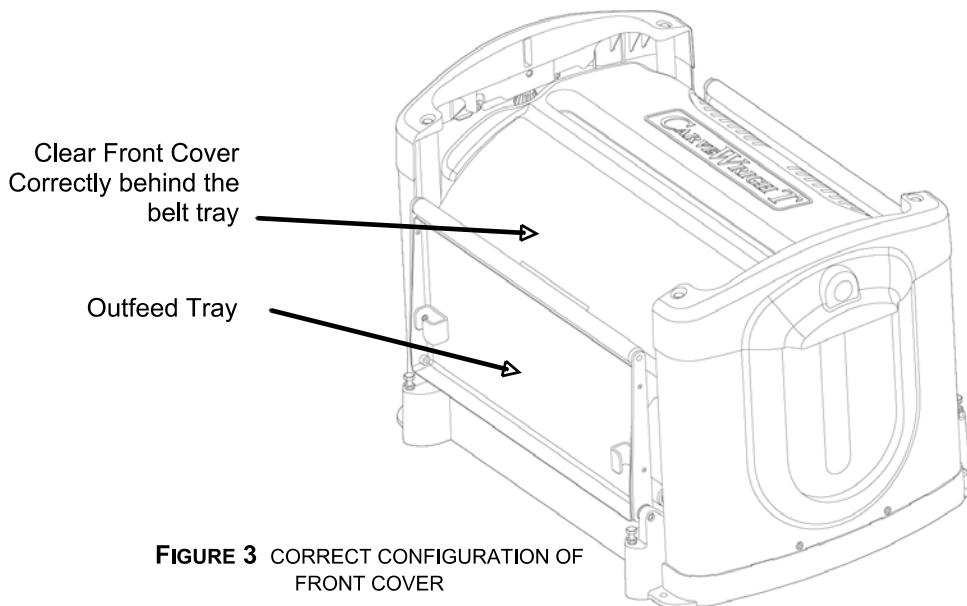
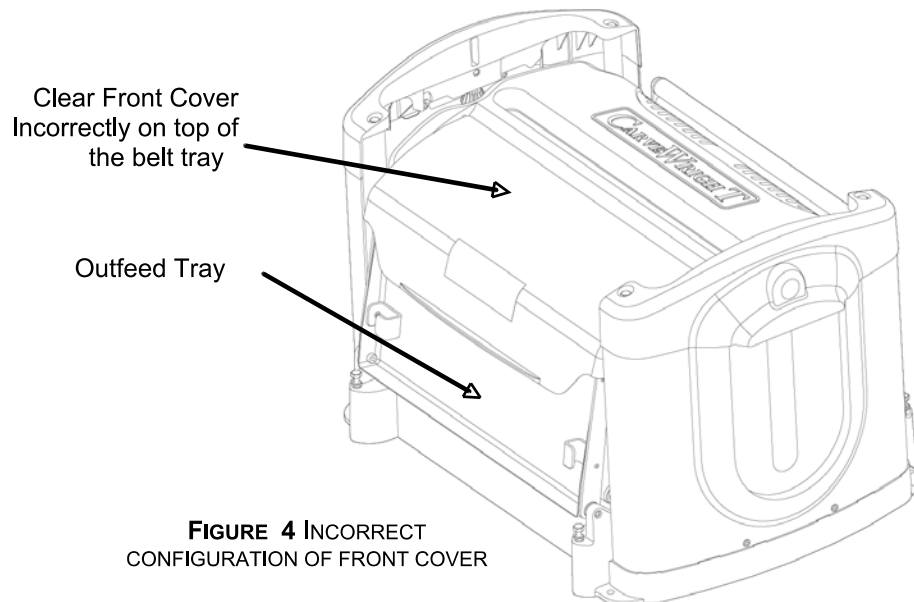

FIGURE 3 CORRECT CONFIGURATION OF FRONT COVER
FIGURE 4 INCORRECT CONFIGURATION OF FRONT COVER
- 11. Fold-up the outfeed trays.** Fold both trays into vertical position and make sure that the clear front cover is not closed over the top of the front outfeed tray. If the tray is packaged incorrectly the cover will be broken in shipping. This will not be covered under the warranty. *Figure 3* shows the front tray in the correct position for shipping. *Figure 4* shows the cover incorrectly closed over the tray.